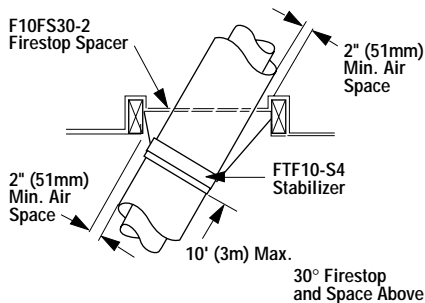
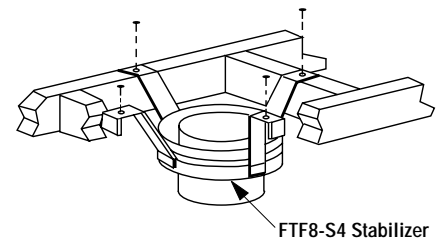

Figure 20
Figure 25
It may be necessary to assemble the chimney at 30° when passing through the floor or ceiling area. Use the F10FS30-2 firestop spacer as shown in *Figures 20 and 21*. Support the chimney at floor or ceiling penetration with a FTF10 stabilizer if distance of chimney below ceiling is 10' or more. Maintain 2" minimum air space to combustibles from chimney sections.
Install the Model FTF10-S4 stabilizer by fitting inner section down into respective section of preceding flue pipe and locking outer stabilizer section into place over the outer chimney pipe. Position for proper clearance through framed opening and nail straps securely (under tension in "shear") into place on framing. Use 8d nails. Attach successive lengths of chimney pipe directly to stabilizer using same techniques as described in Step 3 (*Figure 25*).
Step 8. Security Chimneys locking bands, Model FLB, may be required if the chimney extends too high above the roof flashing. As a general rule, if the chimney extends more than 6' above the roof flashing, the use of locking bands is advisable to strengthen the chimney assembly. Align the locking band at the chimney joint. Locking bands wrap around pipe joints equally covering the joints of both pipe sections. Use the nut provided and TIGHTEN snugly. Do not overtighten as this might damage the chimney section (*refer to Figure 25*).
Step 1. Use Offset Chart to determine amount of horizontal offset (A) and height (B) for various chimney section assemblies.
Step 3. Use Elevation Chart as job estimator only. Add necessary firestop spacers and stabilizers as required. Firestop spacers must be used as shown in *Figures 20 and 21* and stabilizers as shown in *Figure 25*.